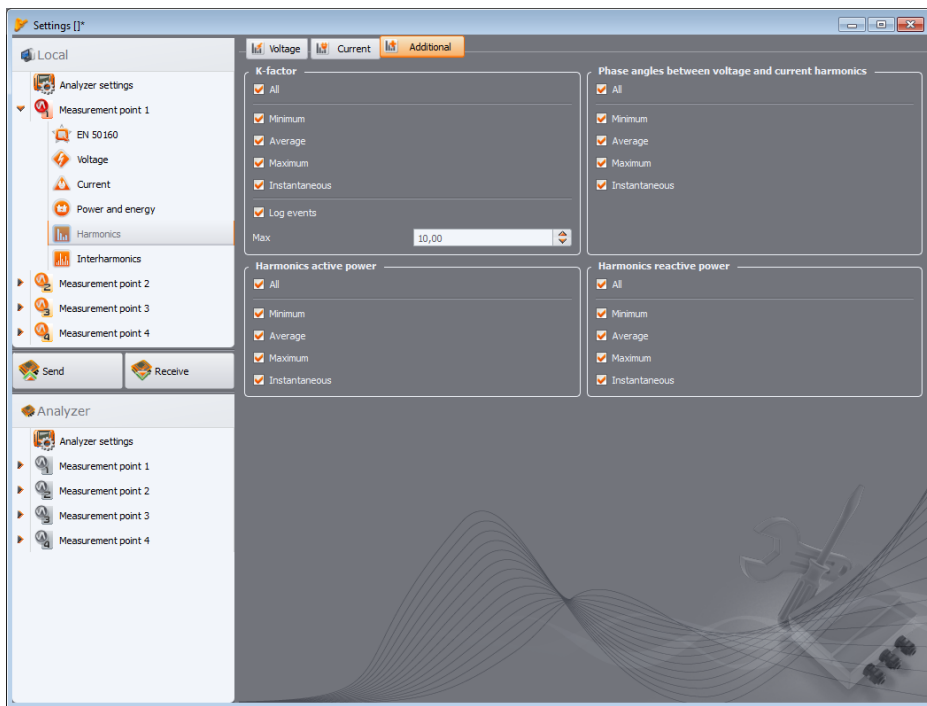

Fig. 27. Additional settings of harmonics.
**Additional** tab (Fig. 27) includes the following parameters: